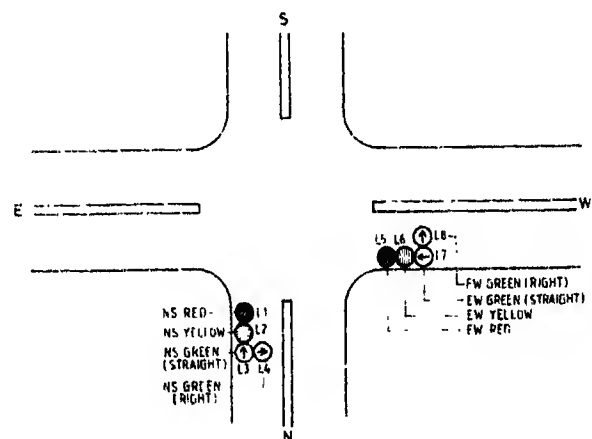

Fig. 1: Typical traffic light system on the road crossing.
Have you ever noticed the actual sequence of traffic lights at some busy crossing? Well, let us have a look at a traffic crossing and write down the sequence. Fig. 1 shows two roads - one in North-South (NS) direction and the other in East-West (EW) direction. In this figure we have not shown the lights at the South and East ends. Lights at the South and East ends are similar to lights at North and West ends respectively. So, when the traffic for South to North is open green lamp no. 3 is on, the North to South traffic will also be open. In other words, the lights at the two opposite ends are connected in parallel.